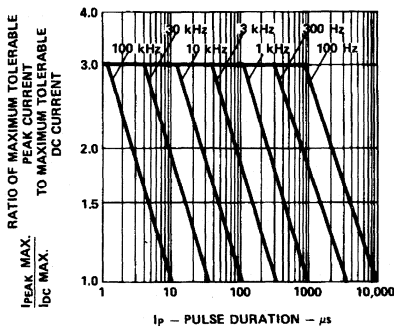

Figure 5. Maximum Tolerable Peak Current vs. Pulse Duration. ( $I_{DC\ MAX}$  as per MAX Ratings).
1. See Figure 5 to establish pulsed operating conditions.